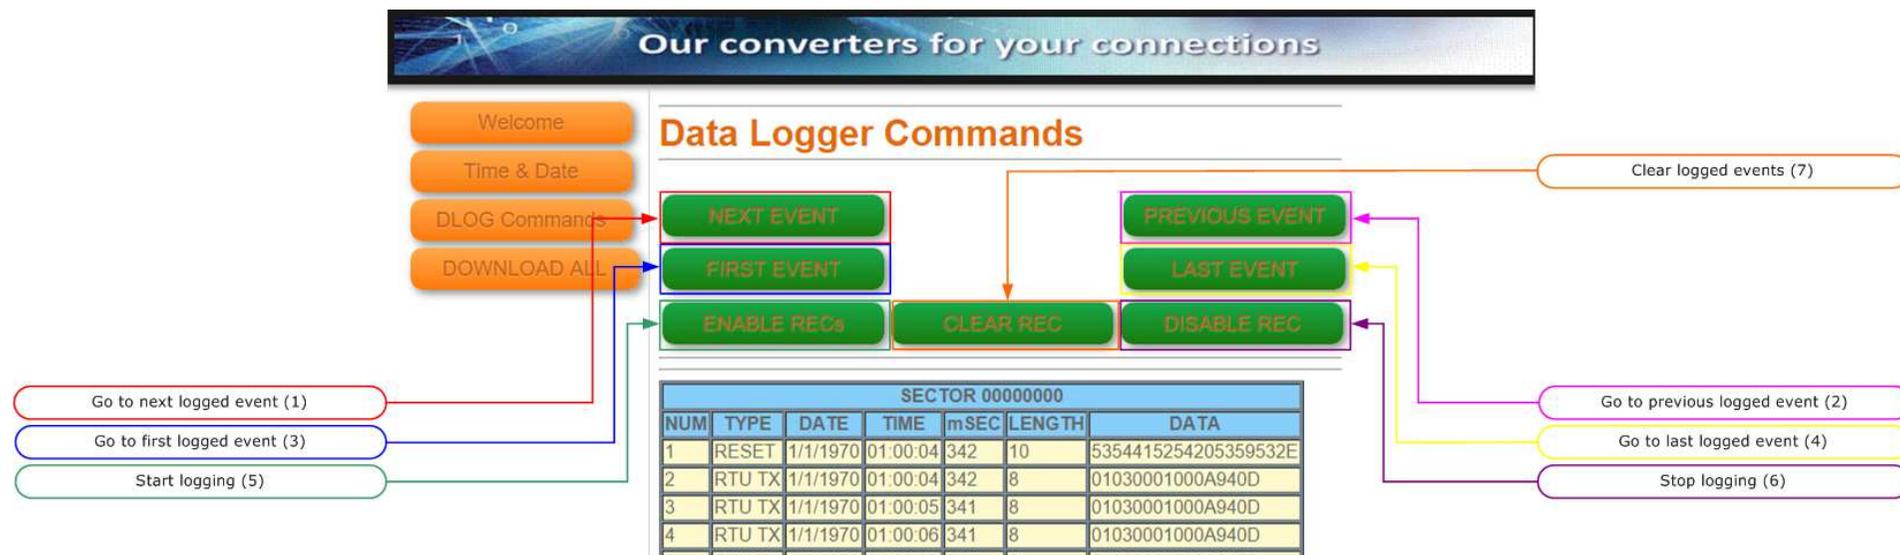

Figure 15: "Data Logger Commands" window
When the "DLOG Commands" button is pressed, the "Data Logger Commands" window appears (Fig. 15). It has the following structure:
- "NEXT EVENT" button (Fig. 15, Point 1): it is possible to go to the next logged event;
- "PREVIOUS EVENT" button (Fig. 15, Point 2): it is possible to go to the previous logged event;
- "FIRST EVENT" (Fig. 15, Point 3): it is possible to go to the first logged event;
- "LAST EVENT" (Fig. 15, Point 4): it is possible to go to the last logged event;
- "ENABLE REC" (Fig. 15, Point 5): it is possible to start the logging;
- "DISABLE REC" (Fig. 15, Point 6): it is possible to stop the logging;
- "CLEAR REC" (Fig. 15, Point 7): it is possible to clear the logged events.